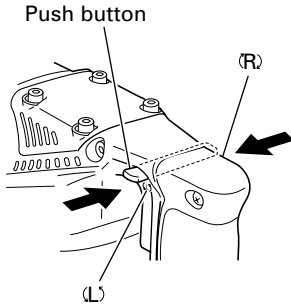

Fig. 6
- 9. Confirm the direction of bit rotation (Fig. 6)
This rotary hammer can be set to rotation only mode by pressing the push button and turning the change lever to  mark. (Fig. 6)